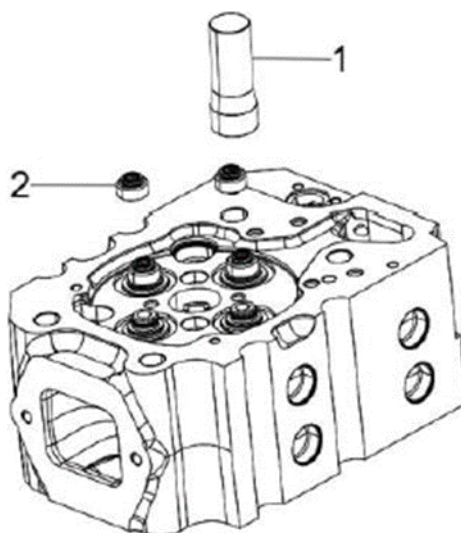

Figure 79. Valve Stem Seal Installation Tool
2. Oil the lip of the valve stem seal (Figure 79, item 2). Using the valve stem seal installation tool (Figure 79, item 1), install a new valve stem seal on each of the valve guides.